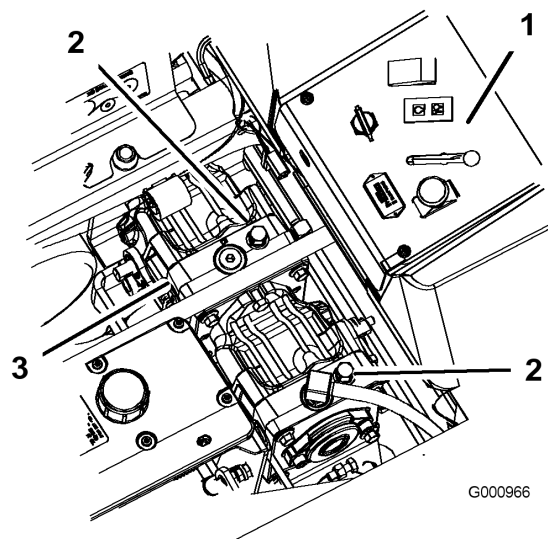

Figure 26
2. Rotate the by-pass valves counterclockwise 1 turn to push. This allows hydraulic fluid to by-pass the pump enabling the wheels to turn (Figure 26).
Rotate the by-pass valves clockwise 1 turn to operate machine (Figure 26).